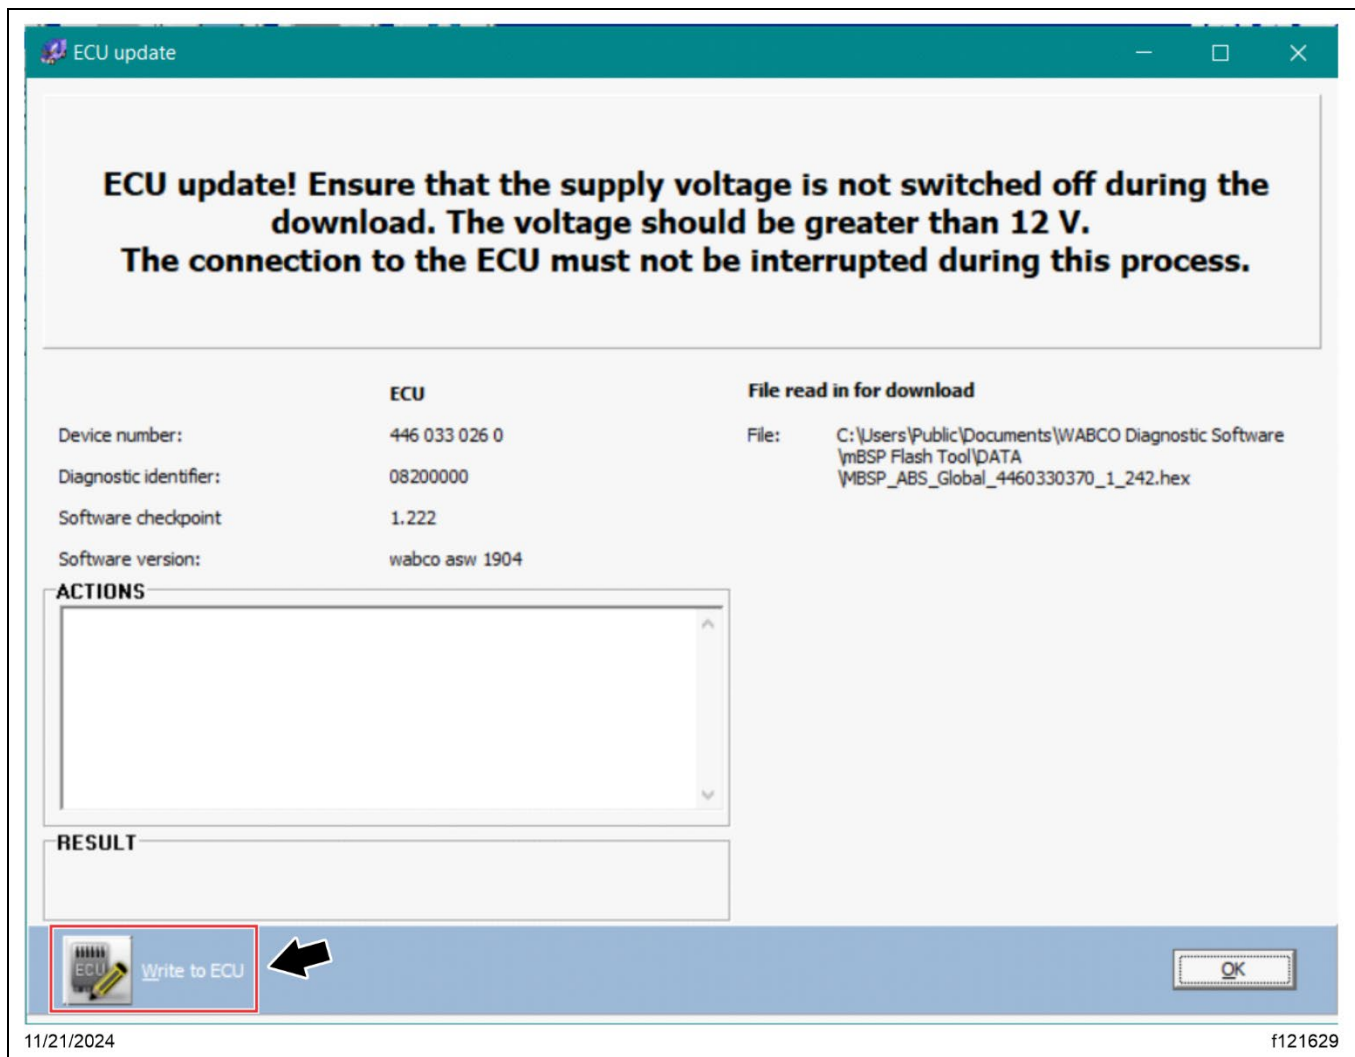

Fig. 51, Selecting the Write to ECU Button
15. In the 'ECU update' window, select the 'Write to ECU' button to begin the ECU update. Note that pressing the 'OK' button cancels the flash tool process. See Fig. 51.